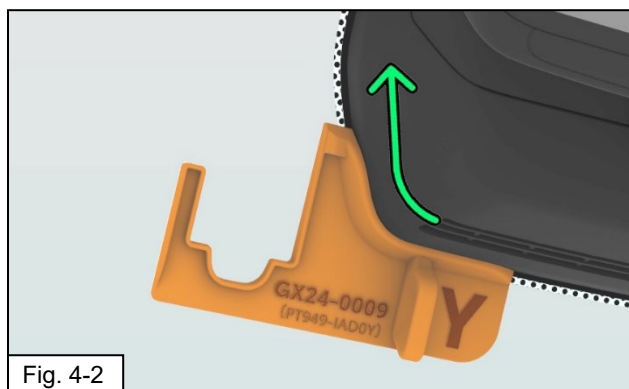

Fig. 4-2
- (d) Insert the 3D Template (**GX24-0009**) between the TSS cover and the windshield glass, it should fit snugly against the TSS cover side walls, and the features of the template should allow it to stay in place hands free. If not, apply a small bit of tape to support the lower edge. (Fig. 4-2)